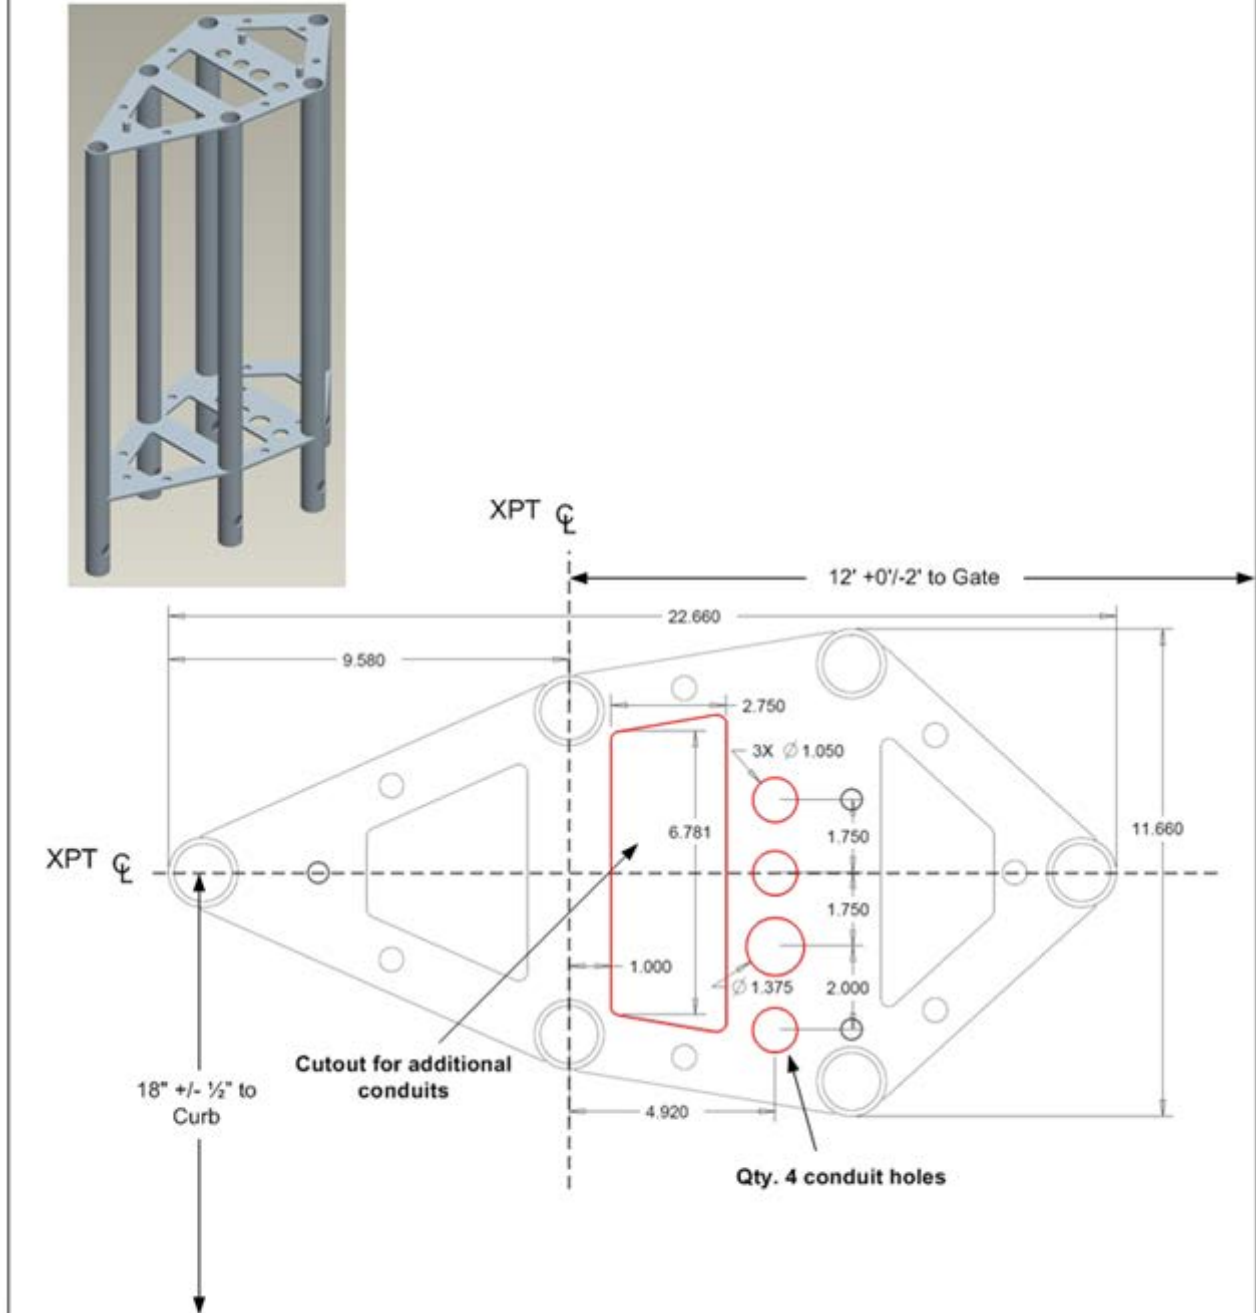

Figure 7. Standard Base Frame
1. Verify that each conduit is properly located according to the holes and cutout in the base frame according to Figure 7.